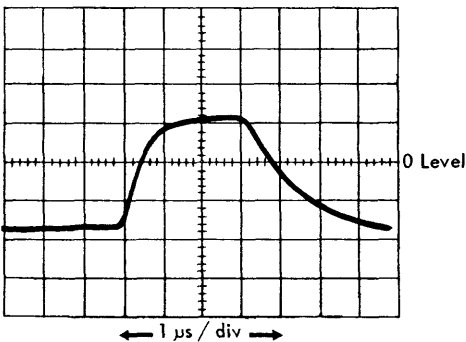

Figure 7. Process Unit Clock  $\phi C$  (1Xc)  $3.0 +.25, -0 \mu s$
$\phi C$  pluggable unit 1S2 (1.01.01) (See Figure 7):
2. Observe  $\phi C$  pulses at 1Xc (1.01.01) (See Figure 7).